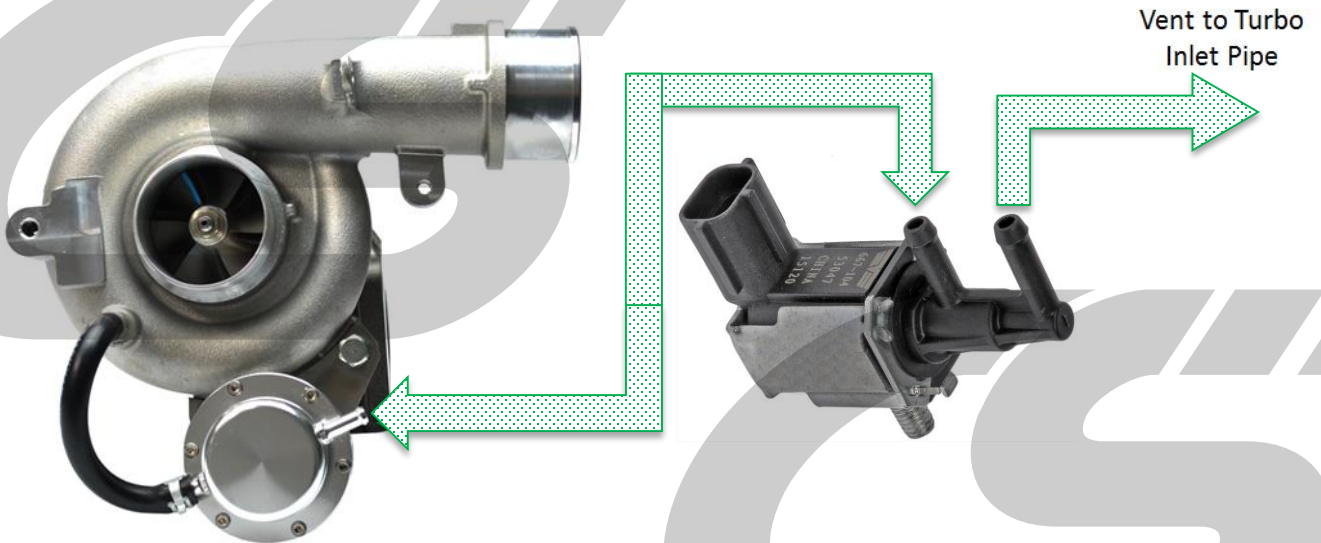

Figure 12a
- b) Route the two EBCS hoses to the OEM locations & secure with OEM clamps. Routing explained below in Figure 12a for clarity.